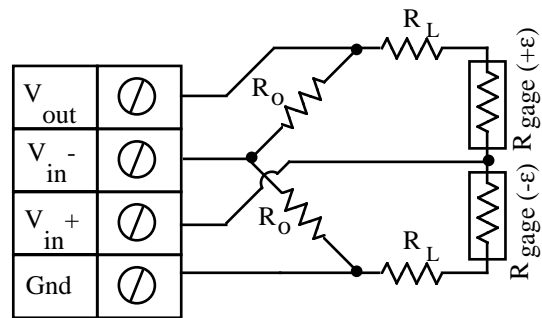

Fig 3.8 - Strain Measurement - Half Bridge Circuit
Measuring bending strain using a 1/2 bridge configuration involves wiring two strain gages as shown in figure 3.8, applying a voltage across the bridge, and measuring the voltage across the two intermediate bridge nodes via a pair of instruNet Vin+ and Vin- input terminals. The excitation voltage for the bridge is supplied by either the instruNet Vout terminal or by an external voltage source. In figure 3.8, R_{gage} is a strain gage, R_O is either a fixed resistor of known value or a fixed unstrained strain gage of value R_O, and R_L is the lead wire resistance. instruNet calculates the value of the strain, returning "strain" engineering units, using the equations:
3. Wire your voltage source per figure 3.8, and refer to the steps at the beginning of this chapter for more information on how to set up your sensor.^{5,10}